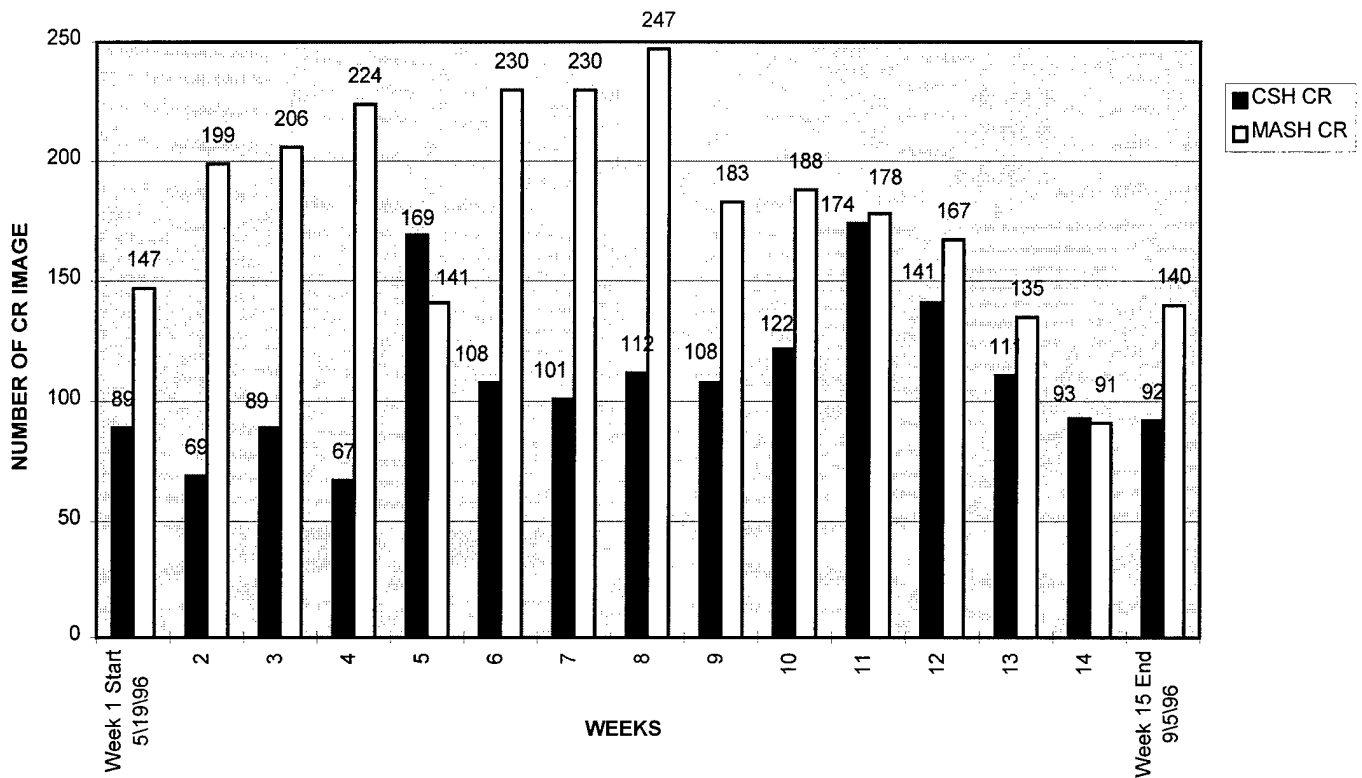

Figure 6.0 Computed Radiography Usage at the CSH and MASH
general x-ray exams. As shown in Figure 6.0, over 2700 CR images have been acquired at the MASH, and over 1600 at the CSH. The computed tomography (CT) equipment has been used for over 150 patient studies, with the majority of these done at the MASH. There have been 67 ultrasound (US) studies performed at the MASH.